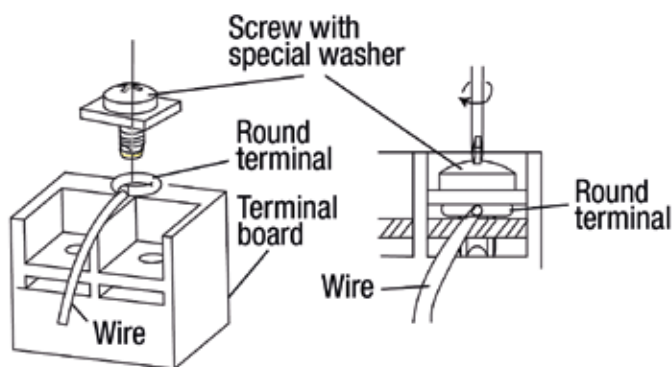

Fig. 30
- (1). Cut off the end of the wire with a wire cutter or wire cutter pliers, then strip the insulation about 10 mm (3/8 in).
- (2). Using a screwdriver, remove the screws from the clamps.
- (3). Using a circular copper hook, properly attach each hook to the wire terminal.
- (4). Place the circular terminal, and secure it with a screw using a screwdriver. (Fig.30)